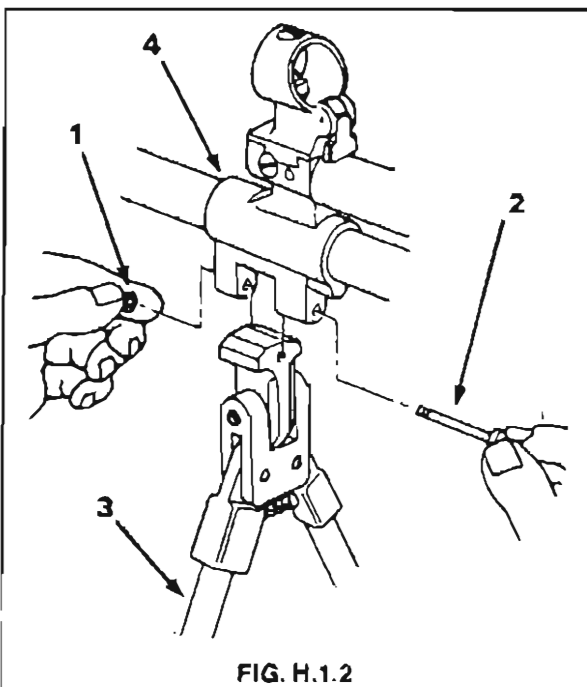

FIG. H.1.2
1. Remove bipod assembly by removing the circlip from headed pin, withdraw pin and separate bipod from gas block. See Fig. H.1.2.